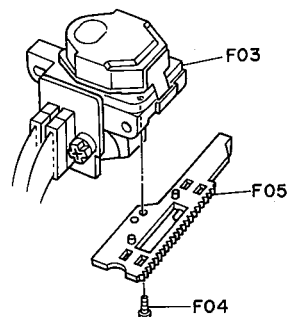

Fig. 2.9.4
- (9) Loosen a screw F04 and remove F05 (Feed Rack C) from F03 (Laser Pickup) referring to Fig. 2.9.4.
- (1) Mount F05 (Feed Rack C) on F03 (new Laser Pickup) with a screw F04. See Fig. 2.9.4.